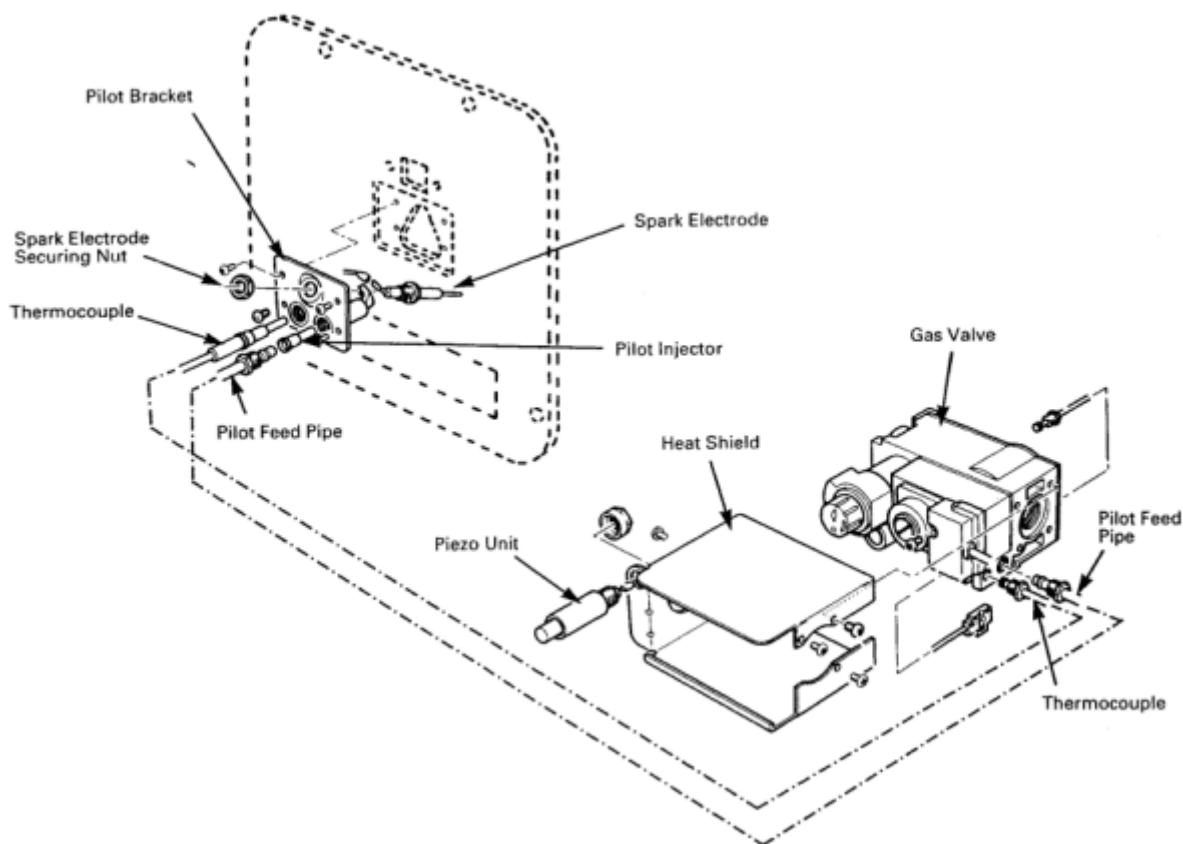

fig 15 - Control Assembly
- 3) Release the thermocouple nut at the side of the gas valve (Fig 15).
HONEYWELL GAS VALVE (Fig 15)
PIEZO UNIT (Fig 15)
SPARK ELECTRODE (Fig 15)